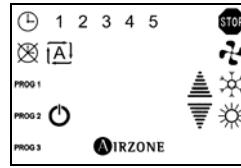

Fig. 29 - Select the air-conditioning mode or the set point temperature
- 8) Select as appropriate depending on whether the set up is for an air-conditioning mode programme (P2) or a set point temperature programme (P1) and then confirm by pressing once on the AIRZONE icon (Fig. 29). While the selection arrows are used to select the temperature, the area of the required mode needs to be pressed in order to select the air-conditioning mode and the selected